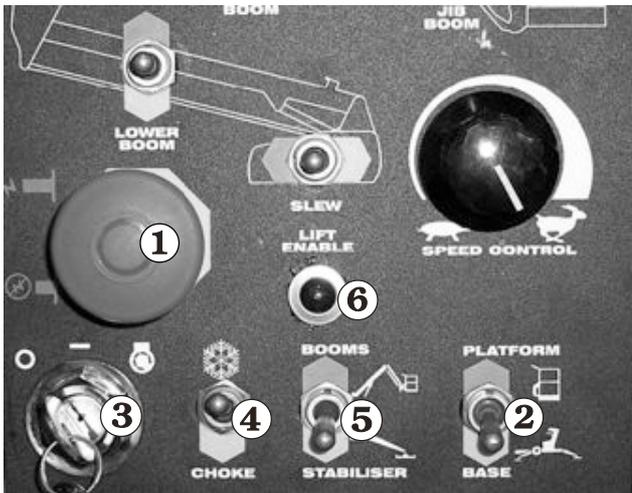
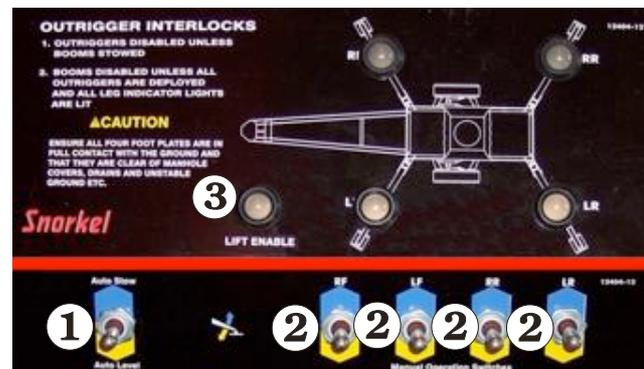

Figure 8.3 - Ground Control Box Starting
Figure 8.4 - Auto Level Controls
1. Set the **Emergency Stop** switch ① to ON (see Figure 8.3).
2. Set the **Platform/Ground Selector** switch ② to GROUND (see Figure 8.3).
3. Insert the key ③ (see Figure 8.3) into the **Master Key Switch** and turn the key on.
4. If the engine is at ambient temperature (cold), hold the **Choke / Cold Start Switch** ④ (see Figure 8.3) up throughout the next step.
5. Turn the key to **Start** and hold it there until the engine starts or for a maximum time of 6 seconds. When the engine starts release the key ③ and the choke switch ④, if you used it (see Figure 8.3).
Ensure the boom/stabiliser switch (item ⑤ on the ground control box) (see Figure 8.3) is set to stabiliser.
When levelling the machine in either the manual or automatic mode care is required to ensure that all of the foot plates are firmly on the ground, the machine is level and the lift enable light (item ⑥ Fig 8.3, and item ③ Fig 8.4) is ON before entering the platform.
1. Operate each switch **2** (see Figure 8.4) to raise or lower each stabiliser one at a time. Use the level bubble (see Figure 2.7 in Safety Devices Chapter) to check the machine is level.